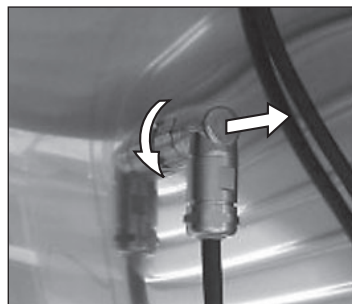

Fig. 32 Open the bayonet catch and pull off the plug
2. Loosen the connection of the illumination box in the interior. To do so, turn the bayonet catch to the left and pull off the plug (Fig. 32).
10. Put in the plug and lock the bayonet catch by turning it right (Fig. 32).